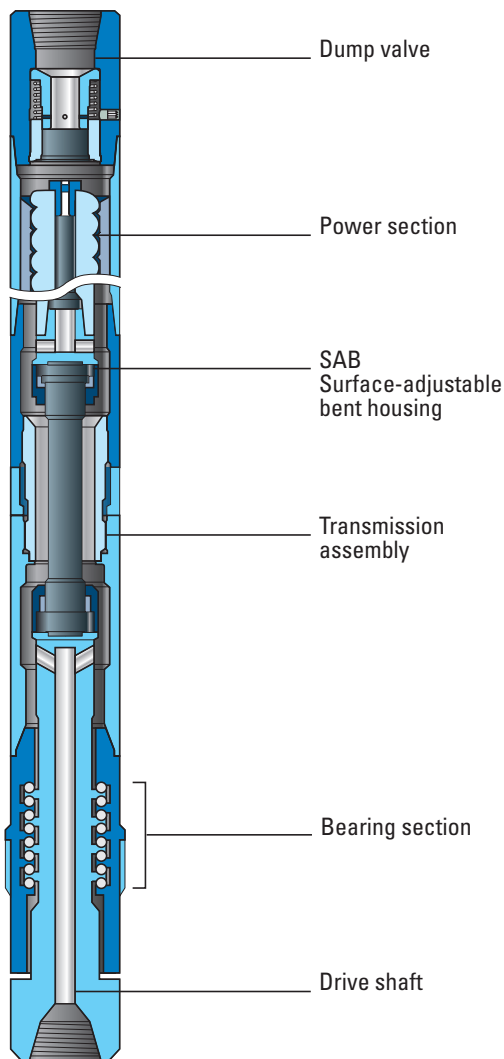

Fig. 1-2. Motor assembly cross section.
- PowerPak steerable motors are modular in design (Fig. 1-2), which enables them to operate in a wide range of directional drilling conditions with minimal interference to MWD systems. Motor components can be selected to optimize performance for each set of drilling conditions.